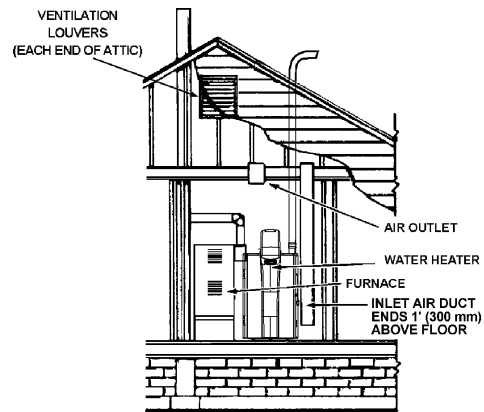

FIGURE 13
2. When communicating with the outdoors through vertical ducts, each opening should have a minimum free area of 1 square inch per 4,000 Btu per hour (5.5 cm²/kW) of total input rating of all equipment in the enclosure (see Figure 13).